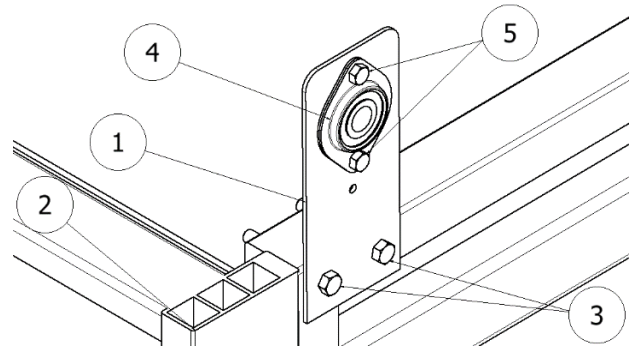

Figure 1.2
Install the supplied Axle Bearing (4) to the outside of the Tarp Spool Mounting Bracket (1) for both sides. Use the 5/16" x 3/4" hex bolts and Nylock nuts (5) to secure the bearing. (Figure 1.2)